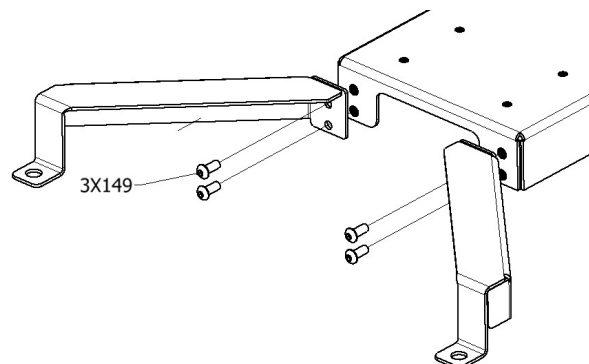

Figure 1
- A. Locate the Driver Front Leg [3GRK812102] and (2) Button Head screws [3X149].
- B. Align the Driver Front Leg with the corresponding holes on the driver side of the Base as shown in Figure 1. Ensure that the two widest holes in the base are opposite the front legs (refer to exploded view on the last page).
- C. Using a 3/16" Hex drive install the (2) screws gathered in step A.
- D. Repeat steps A - C on the passenger side of the base using the Passenger Front Leg [3GRK812103] and (2) Button Head screws [3X149].